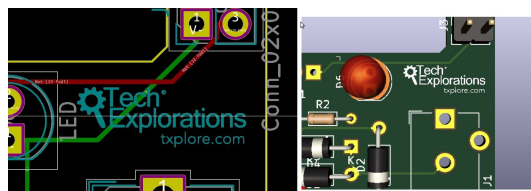

Figure 29.4: The logo appears on the front silkscreen.
14. The logo will now appear in the front silkscreen layer of your board. You can verify that it looks as you want it by opening the 3D viewer (Figure 29.4).